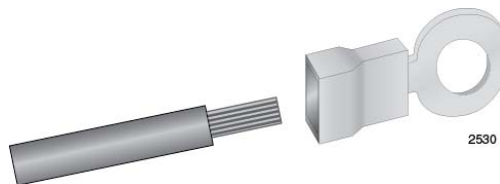

Figure 115. Attaching the Stranded Grounding Wire to the Grounding Terminal
2. Insert the grounding wire into the grounding terminal provided with the power supply and use a crimping tool to secure it to the grounding terminal. See Figure 115,